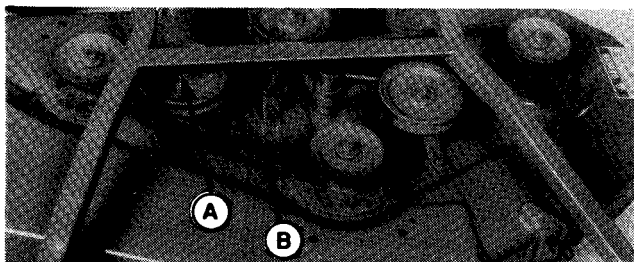

Figure 13.
2. Remove the idler pulley bolt (A, figure 13) and install the 2 inch long bolt from bottom. Install lockwasher and nut on top.